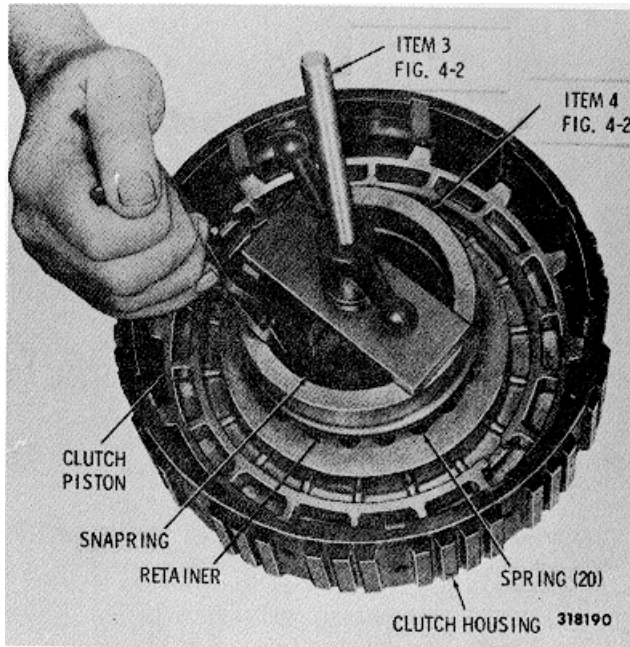

Fig. 6-41 Removing (or installing) fourth clutch spring retainer snapping
(5) Remove five external-tanged clutch plates and five internal-splined clutch plates.
(6) Using items 3 and 4 (fig. 4-2), compress the spring retainer until it is clear of the snapping (fig. 6-41). Remove the snapping.
(7) Carefully release the pressure from the spring retainer. Remove the retainer and 20 piston return springs.
(8) Remove the piston from the clutch housing (fig. 6-41).
(10) Compress the spring retainer until the snapping groove on the clutch hub is clear (fig. 6-41). Install the snapping.